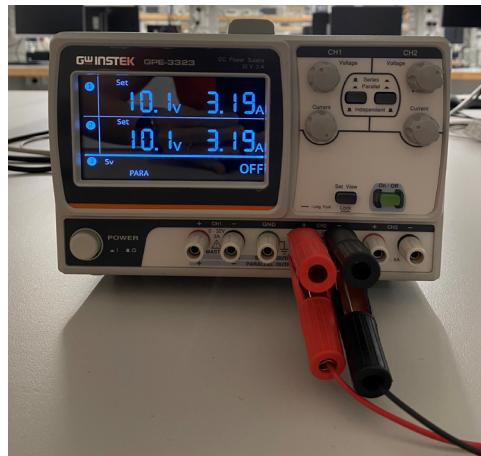

Figure 3.4. Connection of lamp clips to power supply.
- ⚠ The lamp attached to the solar panel needs to be connected to the power supply using the provided clips as shown in Figure 3.4 (after slightly unscrewing the output connectors).
- ⚠ NEVER increase the voltage supplied to the lamp over 12 V, since it can get damaged. The **safest way to set up the lamp** is as follows: (1) set the current limit to 3 A before you switch on the power supply; (2) set the voltage value to the appropriate value (10 V in this case); (3) switch on the power supply.